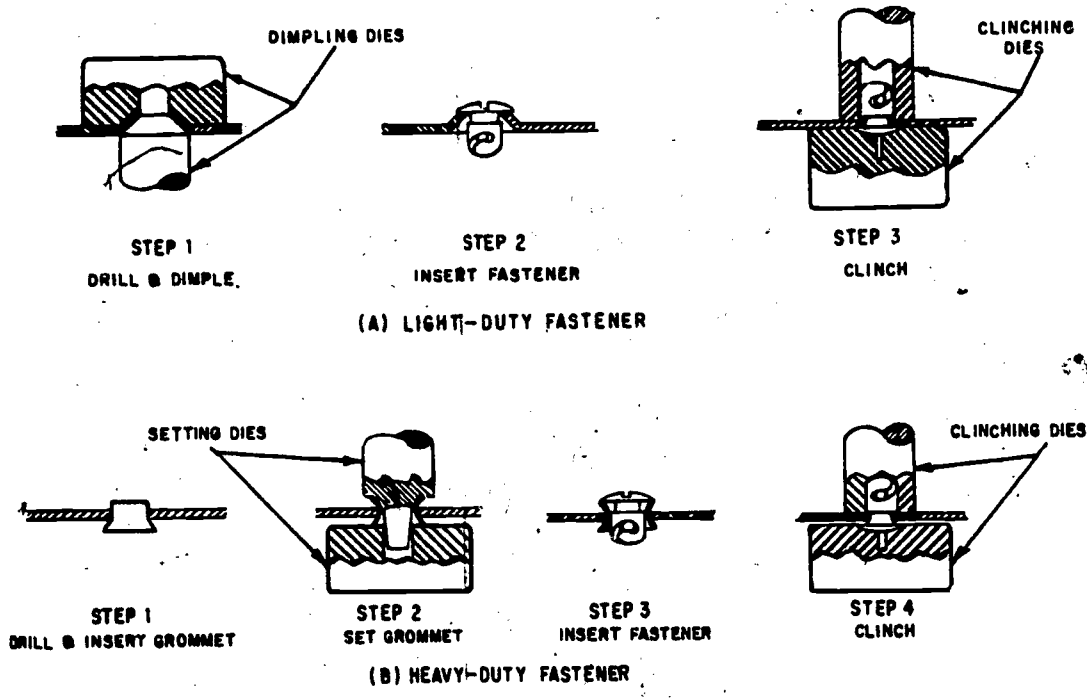

Figure 2-21. - Dzus fastener installation.
The light-duty Dzus fastener is installed in three steps. (See (A) figure 2-21.) Using a special set of dies, dimple the hole. Then insert the correct size of stud in the dimpled hole. Using another set of dies, force the dimpled material into the undercut of the stud to lock the stud in place.
The heavy-duty Dzus fastener is installed in four steps. (See (B) figure 2-21.) Drill a hole to the proper size and insert the grommet. Then set the grommet (partially flared). Insert the correct size of fastener through the grommet. Using a set of dies, flare the grommet material, forcing the grommet to clinch the undercut part of the stud and the panel. This clinching action locks the stud in position.